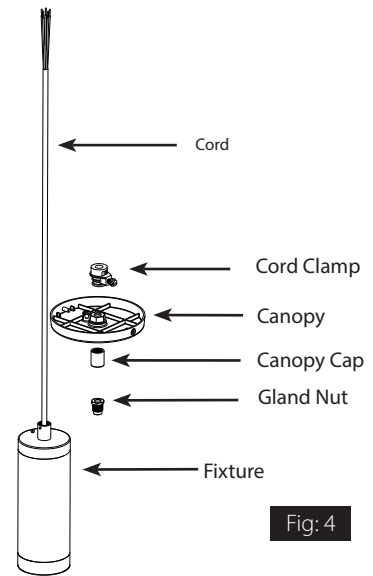

Fig: 4
(Important: For wet locations, caulk the seam between the fixture and ceiling. For Cord to Stem conversion see Figs. 4 and 5)
1. Remove and discard the **Cord Clamp**, **Canopy Cap** and **Gland Nut** as shown in **Fig. 4**.